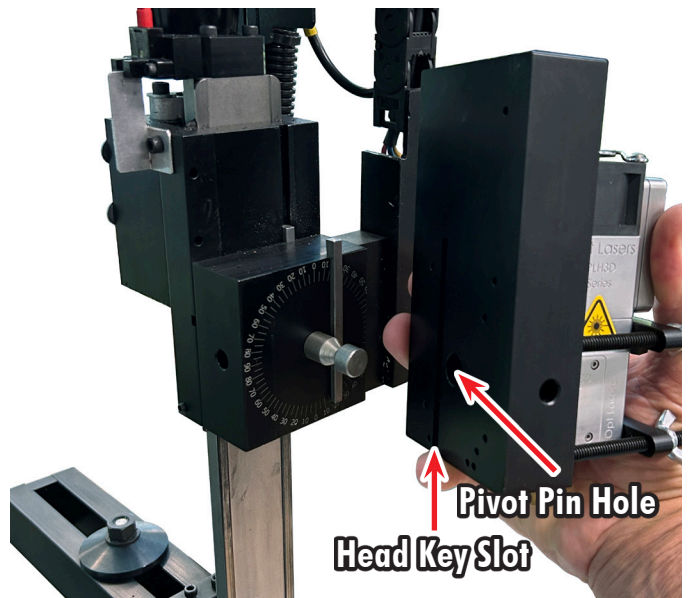

FIGURE 6—Align the head key slot and pivot pin hole on the back of the laser mount to the head key and the pivot pin on the column saddle.
- 3. With the laser either mounted or unmounted to the laser mount, hold the laser mount with the pivot pin hole and head key slot orientated towards the column saddle (see Figure 6).